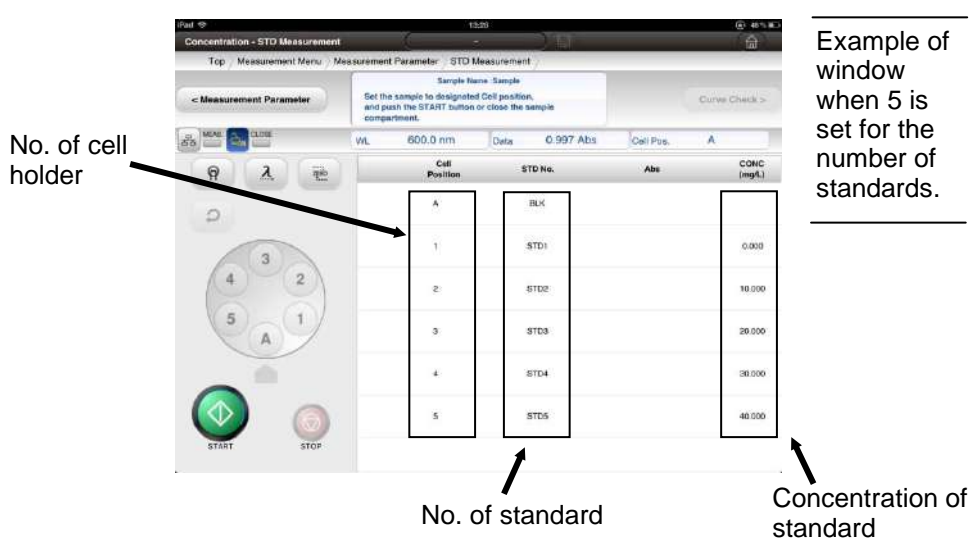

Fig. 4-14 Standard Setting Window
- (1) Press **STD Measurement >** [STD Measurement button] and move to the calibration curve measurement window.
- (2) The standard set window (Fig. 4-14) will be shown. Functions shown in Table 4-10 can be used while waiting for measurement.